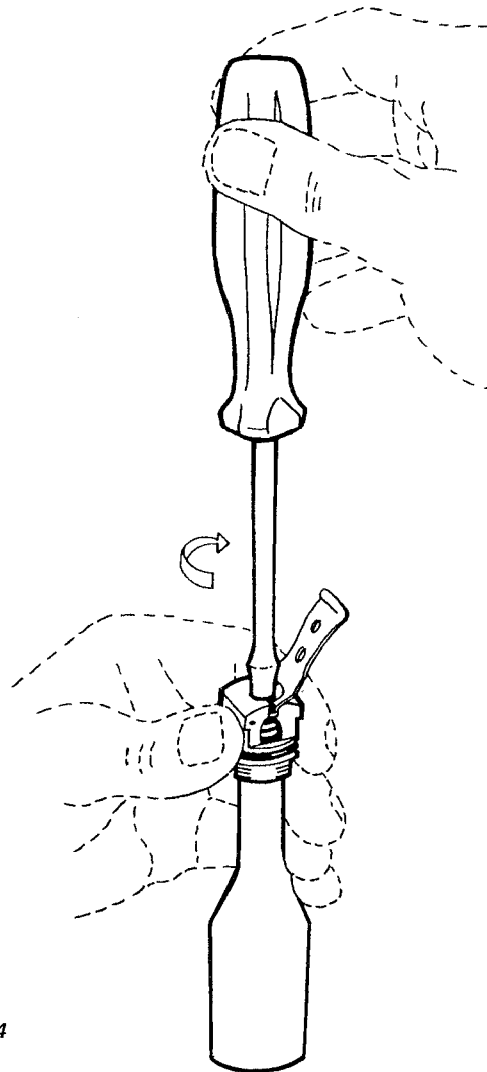

FIG. 4
7. Position the demand lever (35) in the groove of the poppet housing (91).
8. Insert washer (34) over the stem of the poppet assembly and tighten the regulating nut (33) using the special tool (B-12 or B-20). (Fig. 4)